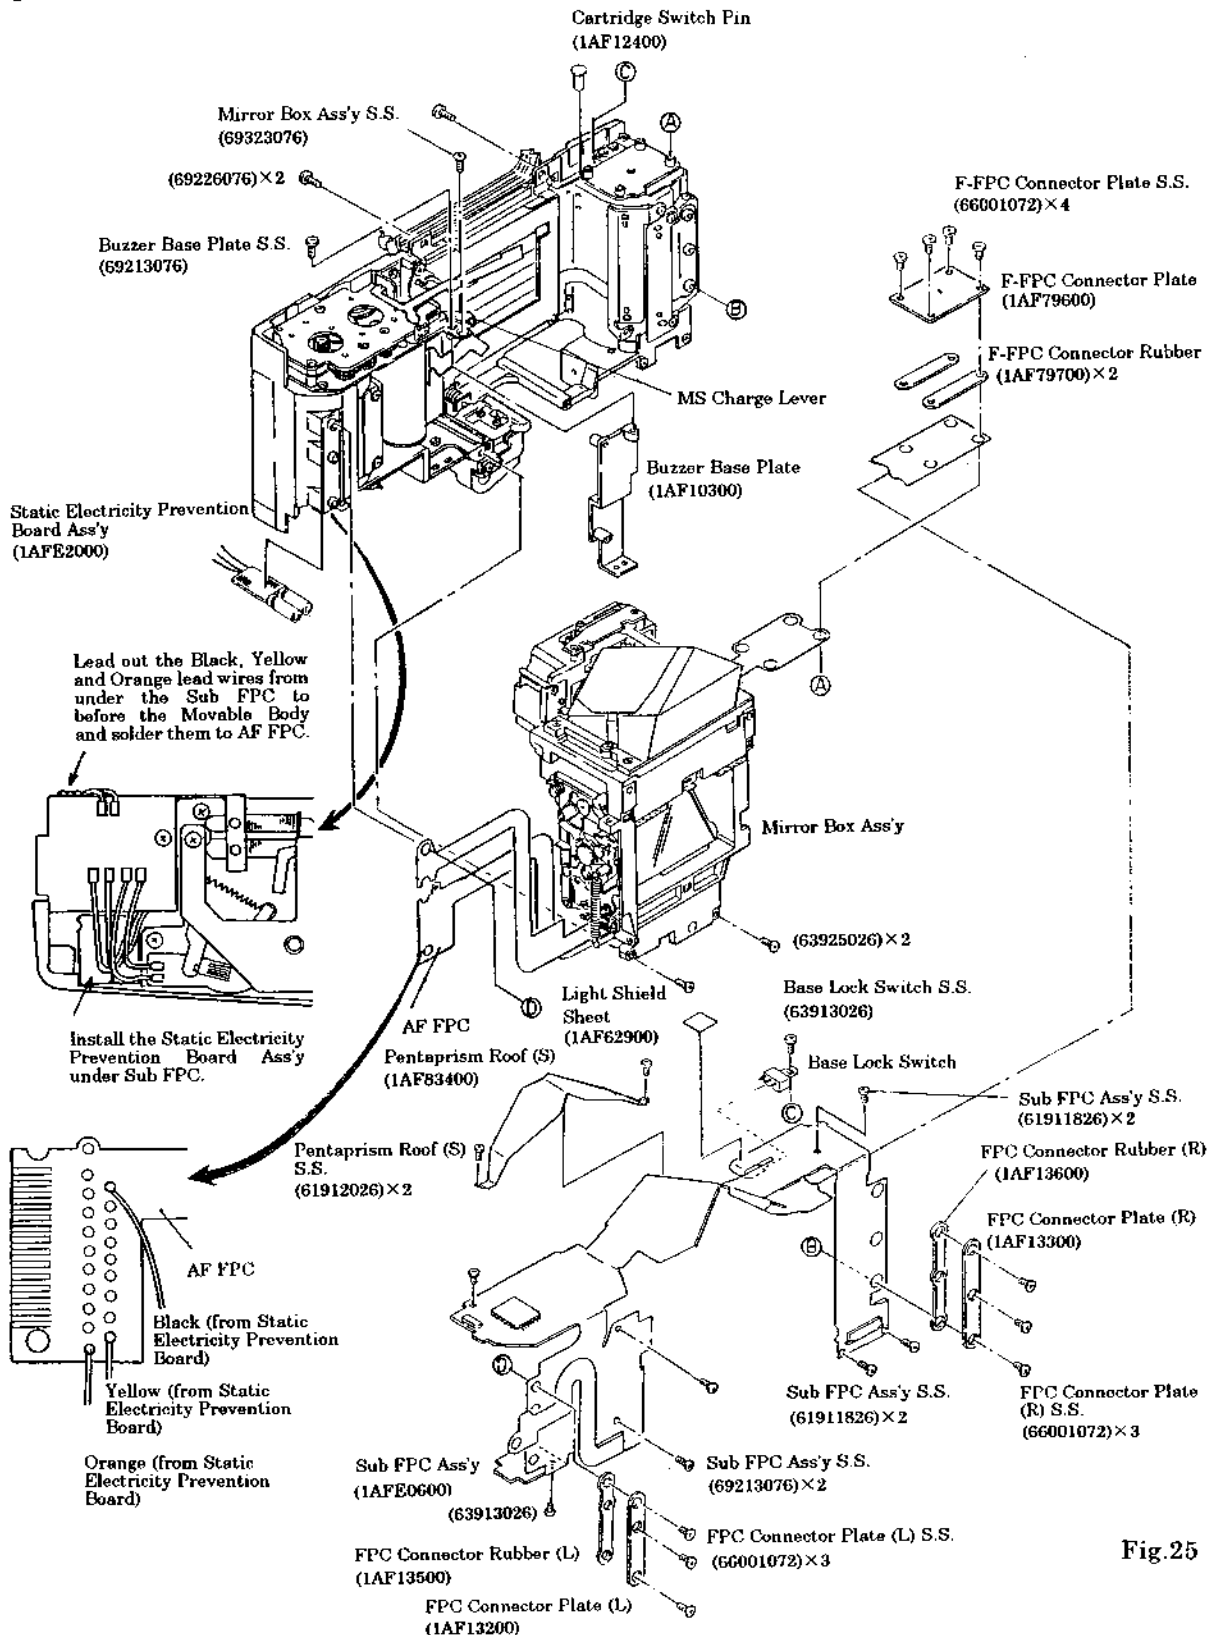

Fig.25
(See Figs. 25 and 26)
- 8) Unsolder the 2 Soldered joints between the One Revolution Magnet and the Sub FPC. (See Fig. 25)
- 9) Remove the FPC Connector Plate (R) Setscrews (66001072)×3 and take off the FPC Connector Plate (R) (1AF13300) and FPC Connector Rubber (R) (1AF13600).
- 10) Remove the FPC Connector Plate (L) Setscrews (66001072)×3 and take off the FPC Connector Plate (L) (1AF13200) and FPC Connector Rubber (L) (1AF13500).
(See Fig. 25)